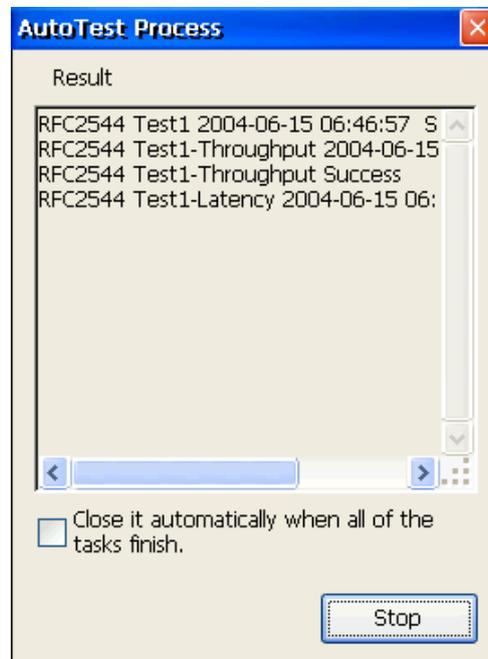

Figure 5.14.2 Auto Test – Test Progress Interface.
**[Run]:** Execute script to do performance test automatically. The auto test progress interface is shown in figure 5.14.2.